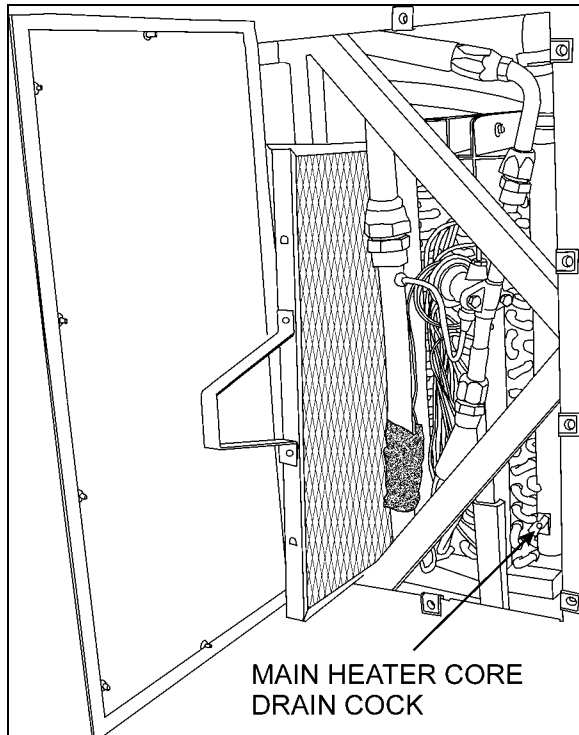

FIGURE 52: EVAPORATOR COMPARTMENT 22327
4. Open drain cock in bottom of heater core, you can unfasten a hose connection on top of heater core (Fig.52) in order to allow air to enter while draining.